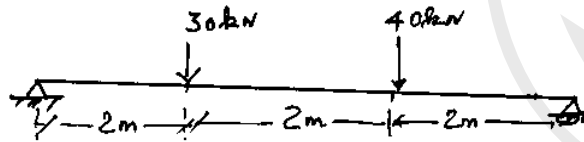

Fig. 1
11. (a) For the beam shown in Fig. 1, find the deflection at C and slope at D